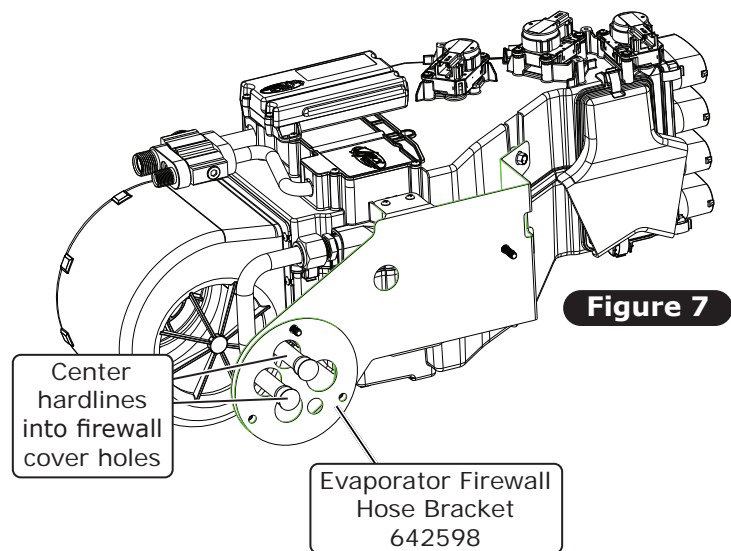

Figure 7
11. Temporarily place the evaporator firewall hose bracket on top of the evaporator brackets, using the studs to align it, then center the hardlines into the firewall cover holes (See Figure 7, below). Once the hardlines are centered, remove the bracket, and tighten the hardlines. **NOTE: For additional clearance, when tightening hardlines, the evaporator bracket can be temporarily removed.**